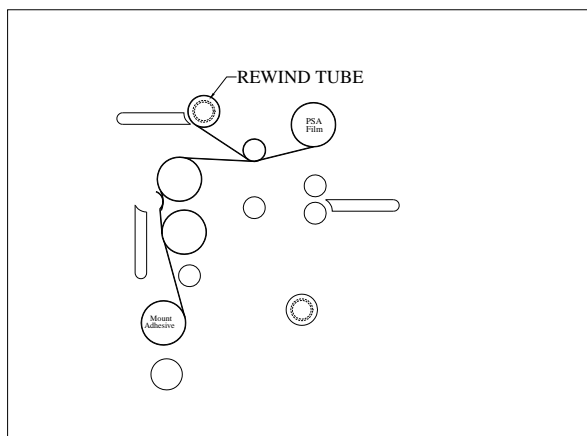

FIGURE 25
6. Pull the mount adhesive up towards the film draped over the upper heat roller (Fig. 25).